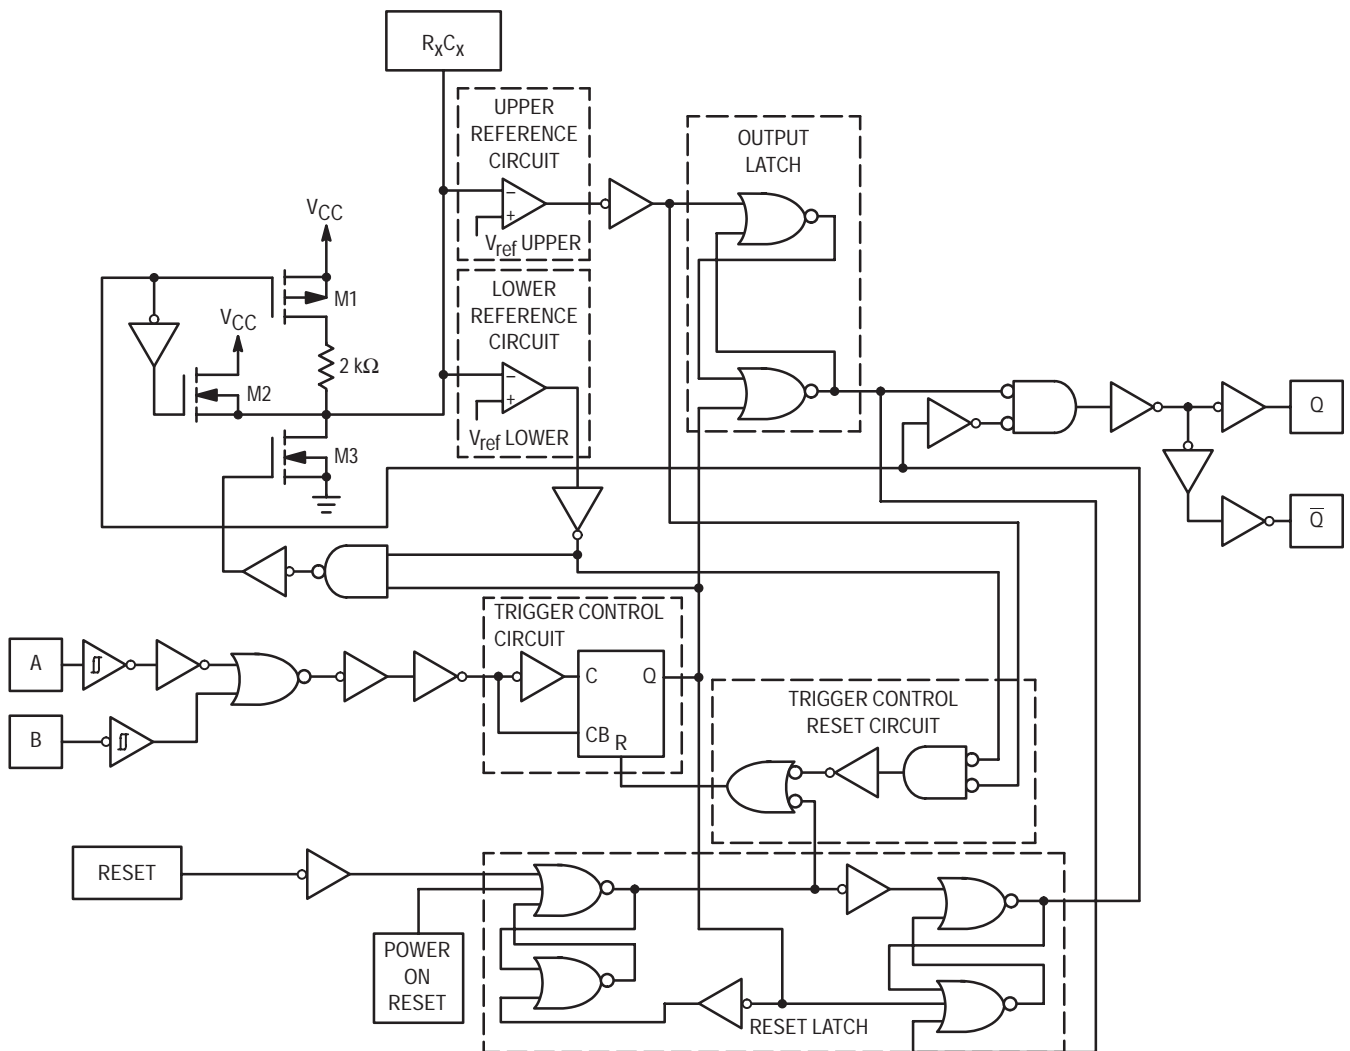

Figure 2. MC74HC4538A Logic Circuit Detail
- 1) Time to discharge  $R_X C_X$  from  $V_{CC}$  to ( $V_{ref\ lower} = 1/3 V_{CC}$ )  $T_{discharge}$ . This discharge occurs quickly because external resistance,  $R_X$ , does not have any effect on the  $R_C$  time constant. The resistance in the discharge path, as seen in Figure 2, is the on-resistance of M3, and the interconnect resistance. The interconnection resistance is dependent on the polysilicon sheet resistance, the metal sheet